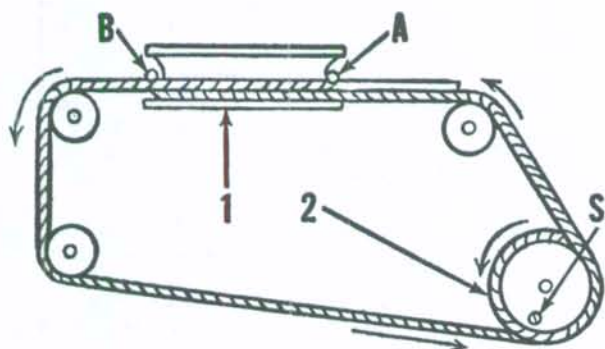

Fig. WB12 — Schematic view of speed control cable showing method of installation. Refer to text.
On cable controlled models, install the cable as shown in Fig. WB12. Attach cable to cam pulley (1) in ball slot (A). Run cable over rear idler pulleys, then enter control pulley (2) at bottom as shown. Wrap cable